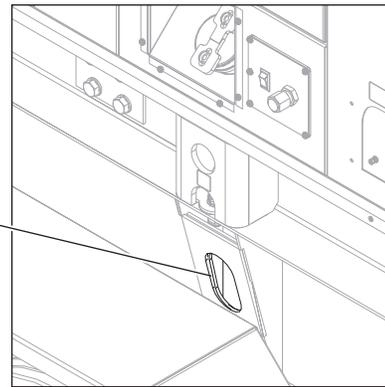

Figure 3-19. NOT Lifting Points (Four Locations)
NOTE: See Figure 3-19. Do NOT connect lifting equipment to indicated holes (A).